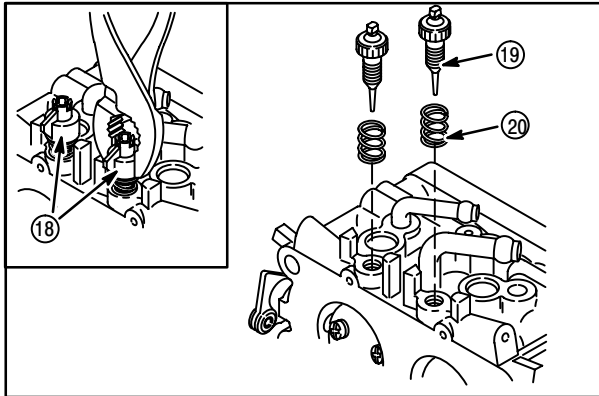

Fig. 65
9. Remove idle mixture screws (19) and springs (20), **Fig. 65**.
**NOTE:** If idle mixture screws are equipped with adjustment limiter caps, remove the caps (18) BEFORE removing idle mixture screws, inset, Fig. 65.